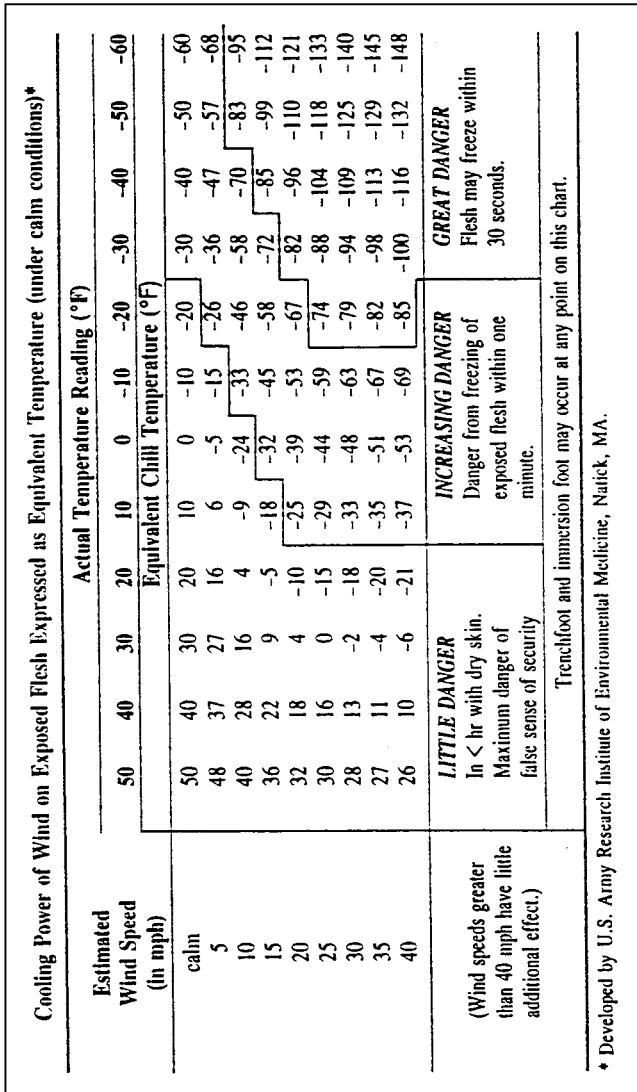

Figure 2A. Wind Chill Chart
6. Wear appropriate clothing to protect from wind chill. Figure 2A shows wind chill conditions that require additional protection.